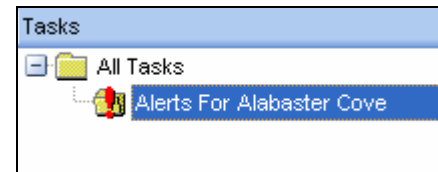

Figure 11.0.5
3. Once you are satisfied with the task name click on the **OK** button. This will add the task to the “Tasks” window (Figure 11.0.5).